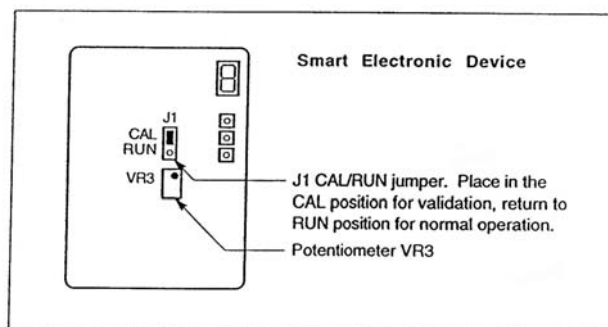
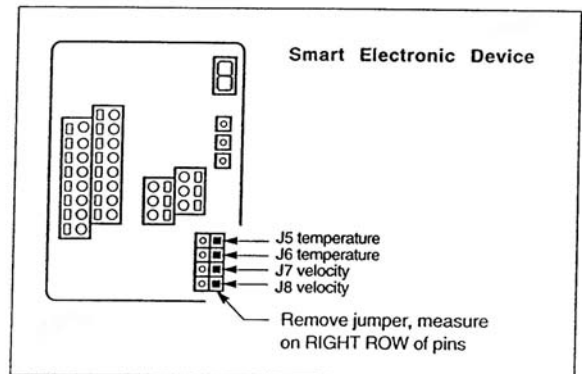

Figure 3-2. Electronics Validation Component Locations
Figure 3-3. Sensor Validation Component Locations
Before beginning the validation procedures, review Figure 3-2 and Figure 3-3 to familiarize yourself with the component locations.
3. Remove the cover of the flow meter enclosure to access the sensor connection points. Remove the four-position jumper from J5, J6, J7 and J8. (See Figure 3-3 on previous page for location.)